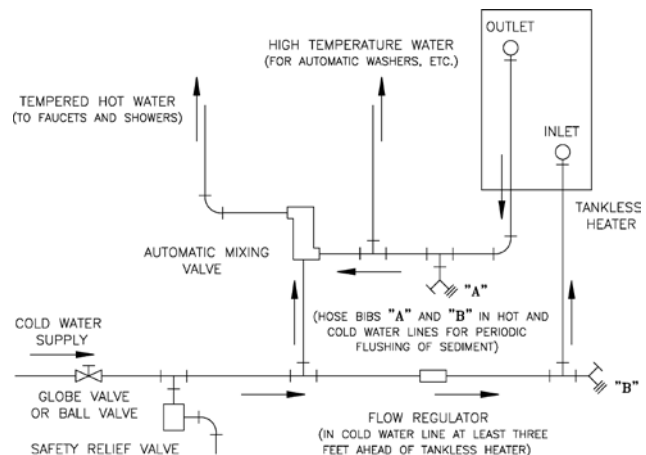

Figure 15: Schematic Tankless Heater Piping
J. CONNECT TANKLESS HEATER PIPING AS SHOWN IN Figure 15. See Table 4 for Tankless Heater Ratings.